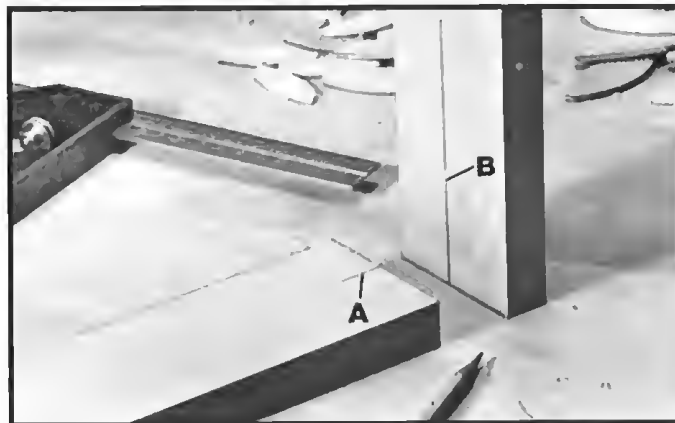

Fig. 43
1. Mark the two boards to be butt joined together at the points where the biscuit is to be placed, as shown at (A) and (B) Fig. 43. These marks indicate the center of the biscuit cut. Make sure the marks (A) and (B) are on the inside surface of the boards as shown. **NOTE:** On the vertical piece the line (B) must extend higher, as shown.